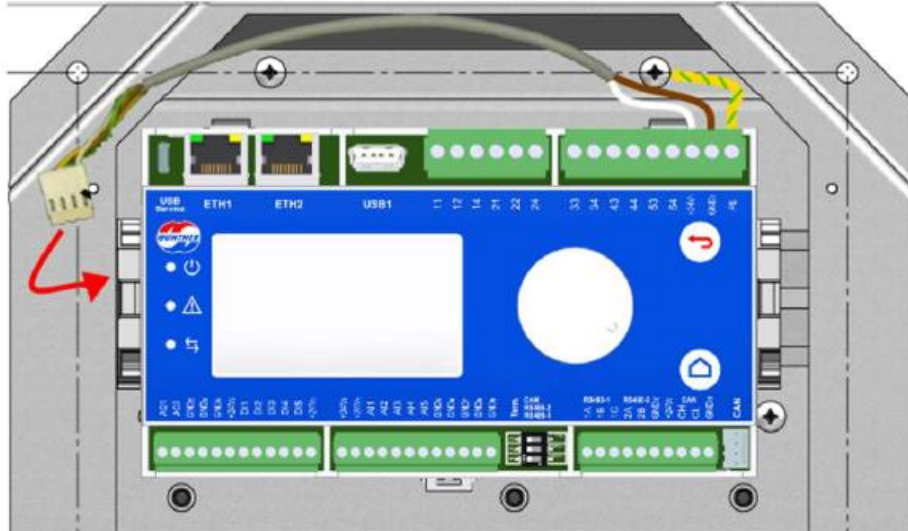

Figure 16: GMMnext power cable connection.
- Insert the power supply (+24V and GND of the terminal previously cut off) into the terminals present at the upper right corner, as in Figure 16;